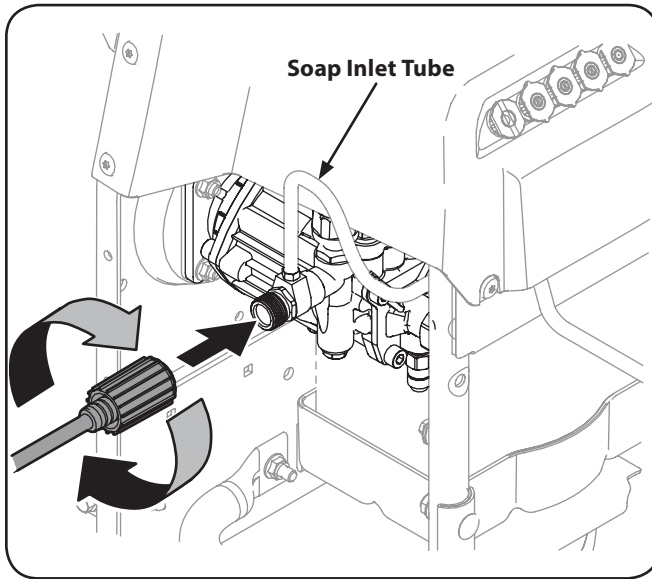

Figure 3-4
- Uncoil and connect the other end of the high pressure hose to the pressure washer main unit by threading the hose onto the hose port as shown in Figure 3-4.